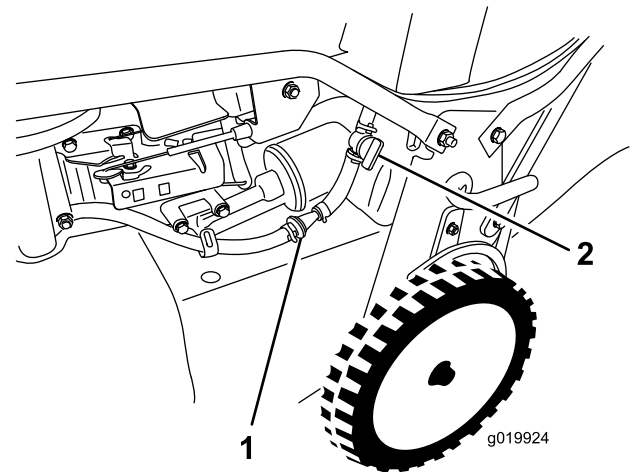

Figure 27
3. Close the fuel shut-off valve (Figure 27).
4. Remove the fuel filter (Figure 27) from the fuel line by loosening the tube clamps surrounding the fuel filter.